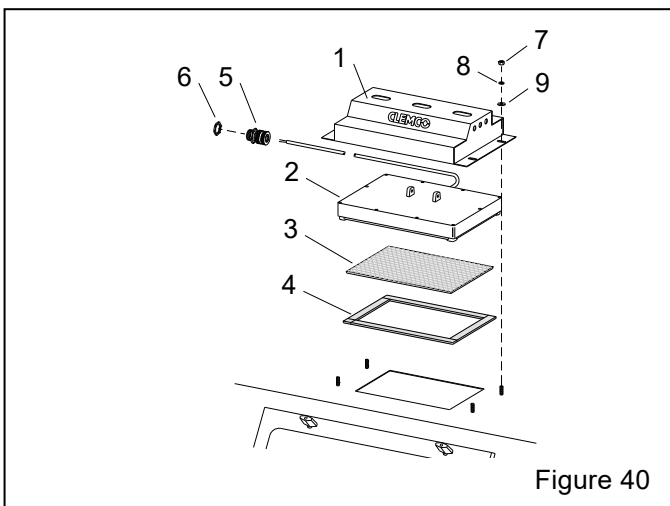

Figure 40
9.4 LED Light Assembly – Figure 40